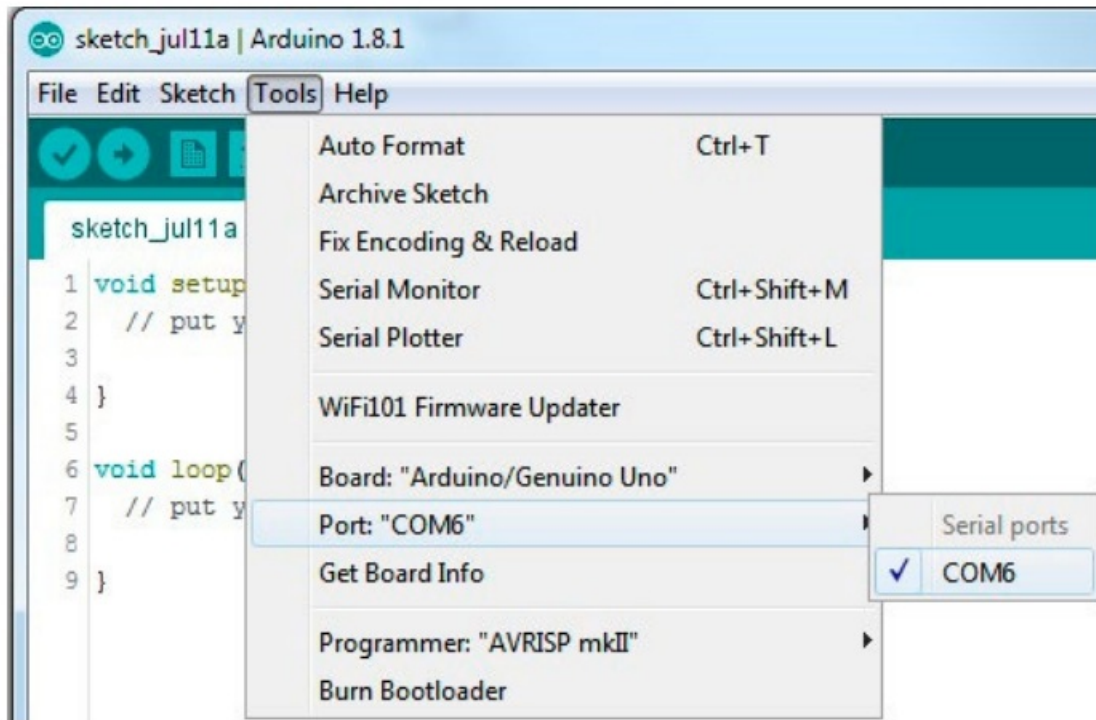

Figure 5. Selecting Correct COM
4. Select the correct COM port to allow communication to DC2026 through USB. Under the Tools menu, select Port → Select the highest number COMxx with the ✓ check mark symbol. There may be more than one option; DC2026 is usually the highest COM port number. The PC screenshots (Figure 5) used in this example show the DC2026 connected to COM6.